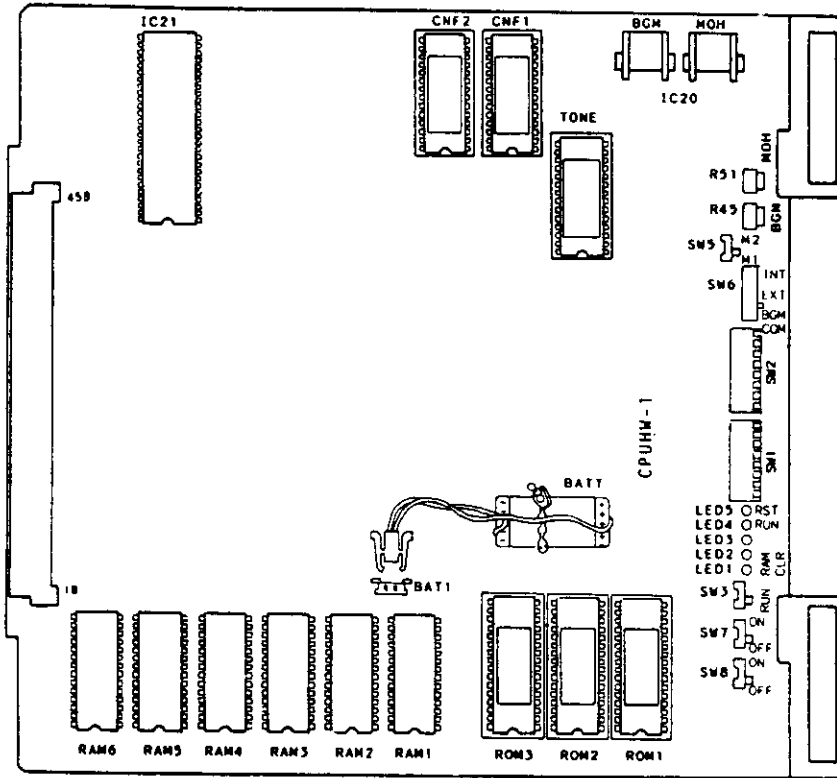

FIGURE A-7 K/MCPUHW-1 CARD
3.03 The Version 2 CPU cards, MCPUHW-1 and KCPUHW-1, are controlled by an 8-bit advanced Z-80 type CPU, HD64180R1 clocked at 8-Mhz. It contains operating software of 256 kilobytes and 32 kilobytes of data storage memory. See Figure A-7.